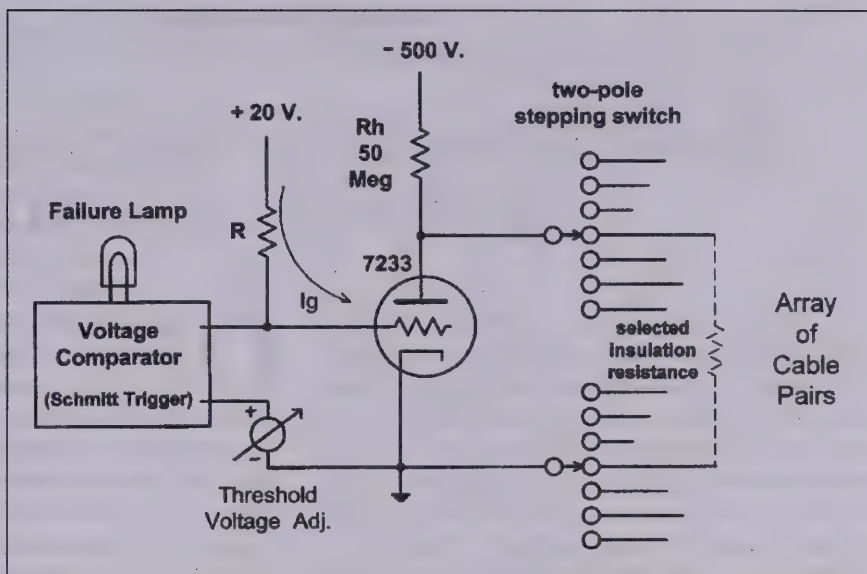

Figure 2. Type 2 Inverted Tube Circuit
Professor Terman had written a paper on this discovery in 1928 (3). I cribbed this circuit in the blink of an eye, and when I had debugged it, it looked like that of Figure 2.